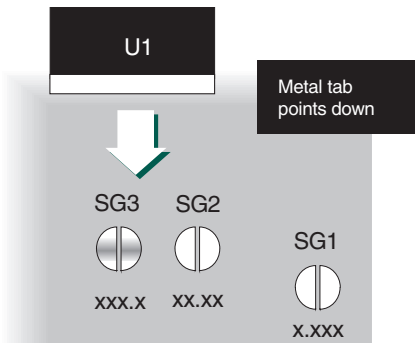

Figure 2. Installing U1
3. Battery Operation: Do not use this feature with blue LED meters. Open SG4 and install U1 (LM7805CT) with its metal tab facing down as shown Figure 2. Allowable input power ranges (J1, pins 5 and 6) are as follows: